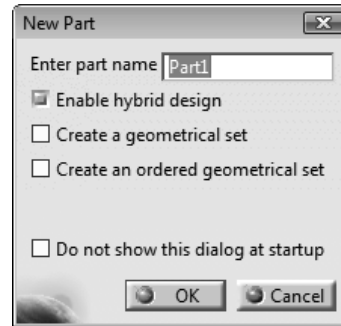

Figure 2-34 The *New Part* dialog box
2. Choose **Close** from the **File** menu to close the **Product1** file. Next, choose **Start > Mechanical Design > Part Design** from the menu bar; the **New Part** dialog box is displayed, as shown in Figure 2-34.